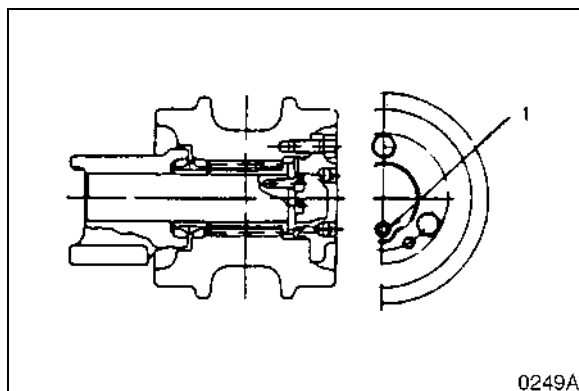

Figure 49
7. Tighten plug (1, Figure 49).